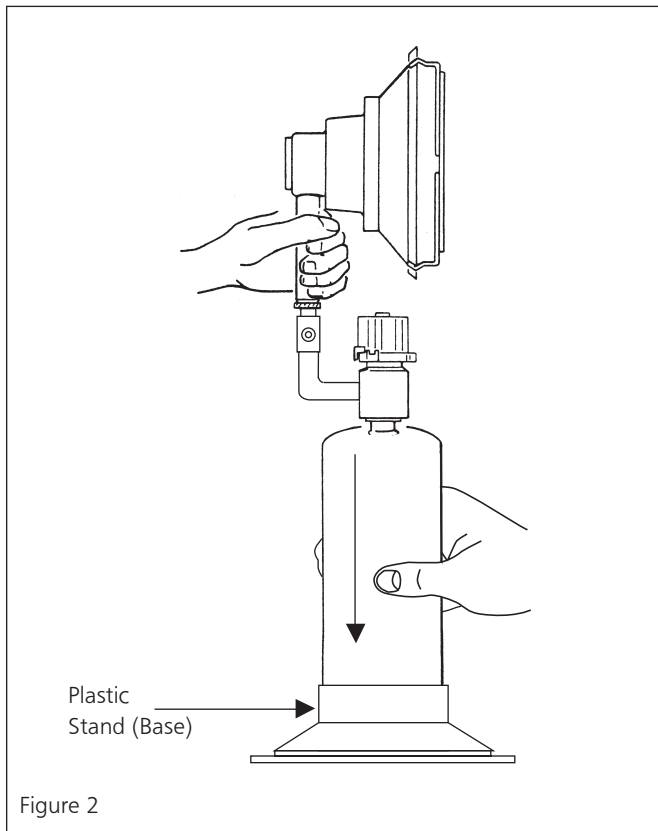

Figure 2
- 2.2 Firmly push cylinder into plastic stand.– Fig. 2
2.3 Check to assure that bottom of cylinder is in contact with base plastic lugs. – Fig. 2.
- C. Firmly place disposable cylinder into plastic stand. (See Fig. 2.)